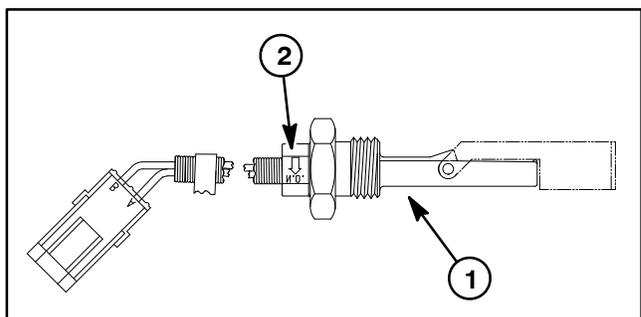

Figure 34
3. If oil level sensor was removed from reservoir, install oil level sensor into reservoir making sure that arrow on sensor is pointing down (Fig. 34). Torque sensor nut from **110 to 140 in-lb (12.5 to 15.8 N-m)**.